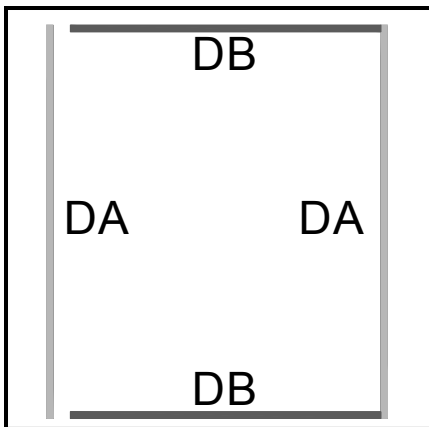

Fig B1
2. Lay out the parts **DA** and **DB** as in fig B1 and **see drawings**